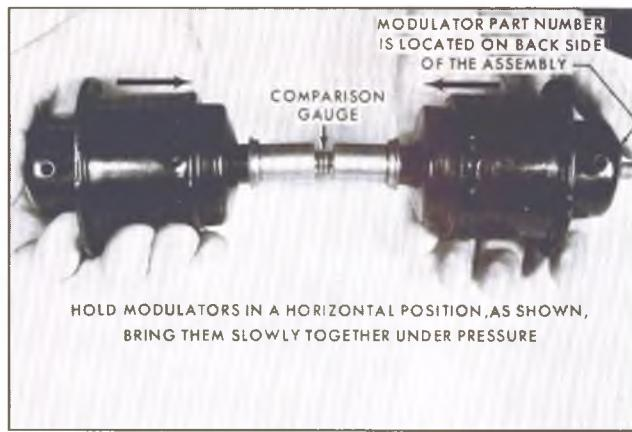

Fig. 36T—Holding Modulators in Horizontal Position
- Install the modulator that is known to be acceptable on either end of the gauge (Fig. 36T).